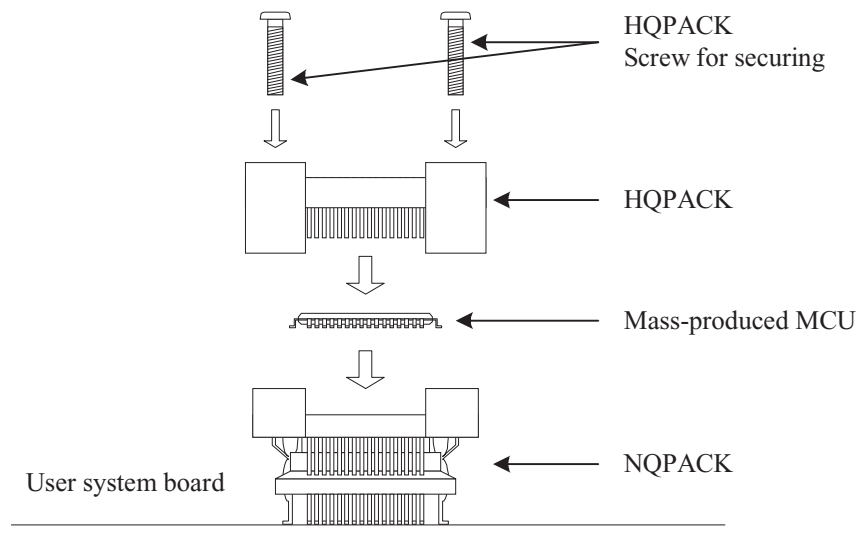

Figure 4 Mounting the mass-produced MCU
2. Confirm that the MCU is securely mounted on the NQPACK, insert HQPACK with aligning the direction of the NQPACK and that of the HQPACK as shown in Figure 4.